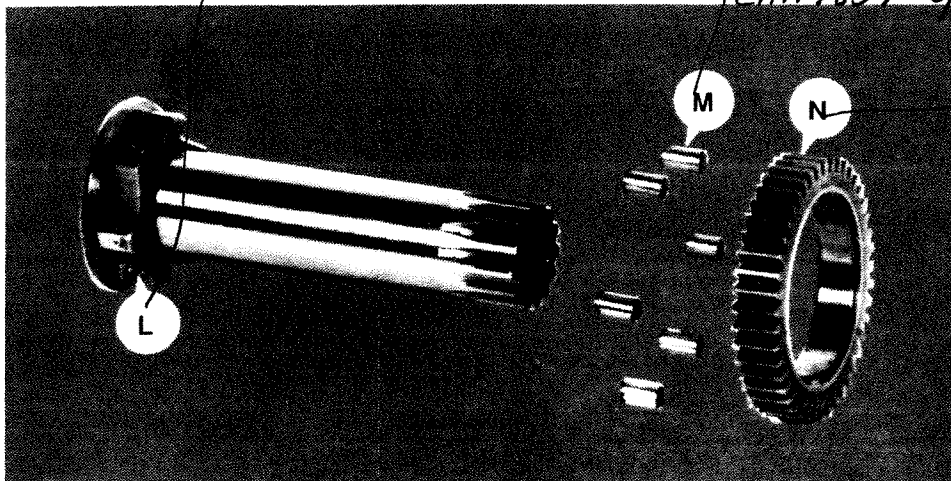

Figure 2.17 - Turret Clutch
When disassembling the clutch assembly, be careful not to lose pins "M" and spring "L", Figure 2.17 .
12. Remove gear "N", Figure 2.17, to disassemble the clutch assembly.
Pins "M" can easily be replaced by compressing springs "L", Figure 2.17, with a small wire.
9. Replace pins "M" and gear "N", Figure 2.17, on the clutch shaft.